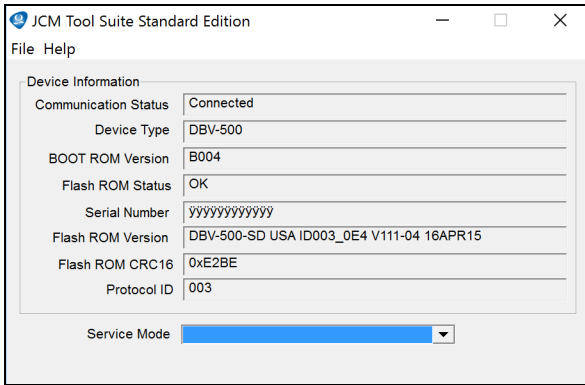

Figure 4 JCM Tool Suite Main Screen
Figure 4 illustrates the JCM Tool Suite Standard Edition's Main Screen.
5. Open the JCM Tool Suite Application. When connected, the Device Information Fields will be filled in, as shown in Figure 4.